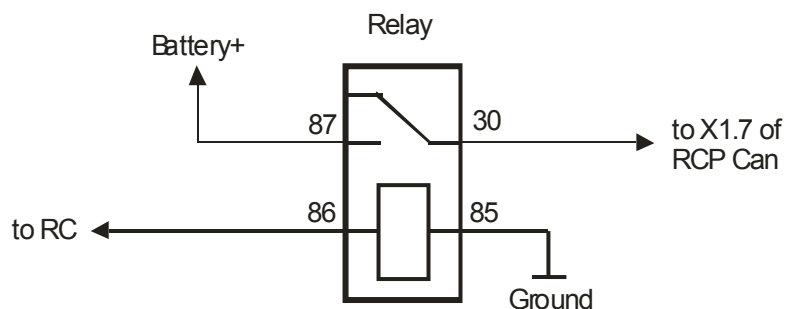

Figure 7
- The input RC_in is intended for connection of specialized remote controls such as DEFA Smart Start, Hydronic Easy Start, Webasto Telestart. If a problem exists with direct connection of the remote control output line to the input RC_in, the scheme at the fig.7 can be used.